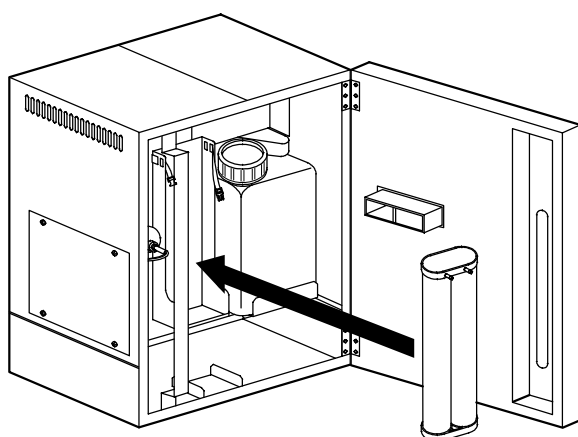

Fig.01
- (1) Make sure the earth leakage circuit breaker or the unit is switched off, and the tap is being fastened.
- (2) Use the ion-exchange resin cartridge out of accessories for the unit.
- (3) Put the ion-exchange resin cartridge on the receive table.(See Fig.01)